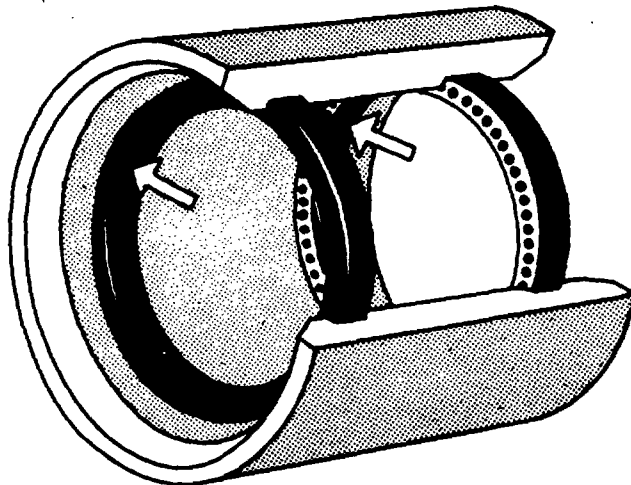

Figure 36
Certain-teed FLUID-TITE Couplings are easily assembled. The scientifically designed and patented rubber gaskets have tapered surfaces that allow the pipe to assemble easily — yet seal perfectly. (Figure 36).
- A. Place rubber gaskets inside coupling groove with holes facing center. After placing, snap the gasket at the four quarters of its circumference to insure that the gasket is properly seated in the groove. (Figure 36).